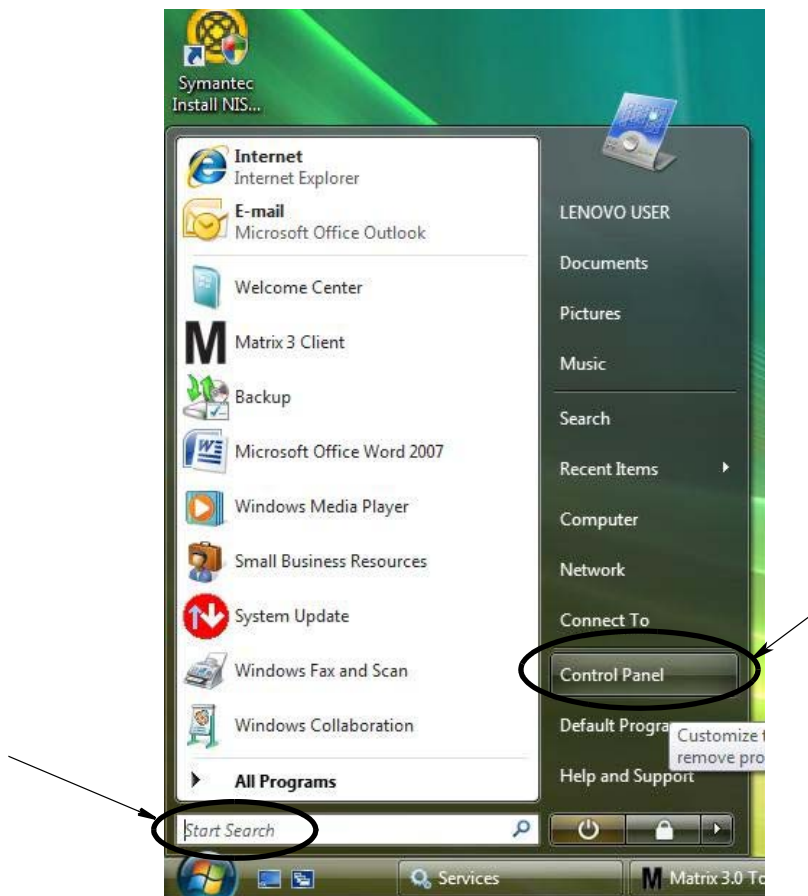

FIG. 46
1. On the Windows Vista desktop select Start Search / Control Panel (FIG. 46).